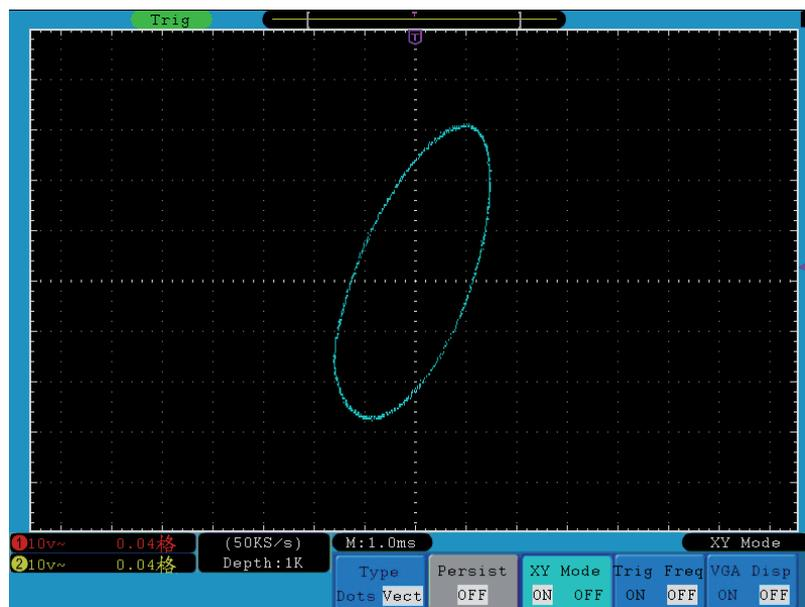

Figure 46. XY Display Mode.
- 2 Press the **H3** menu selection button to set XY Mode **ON**. The display format is changed to be XY mode (see Figure 46.).